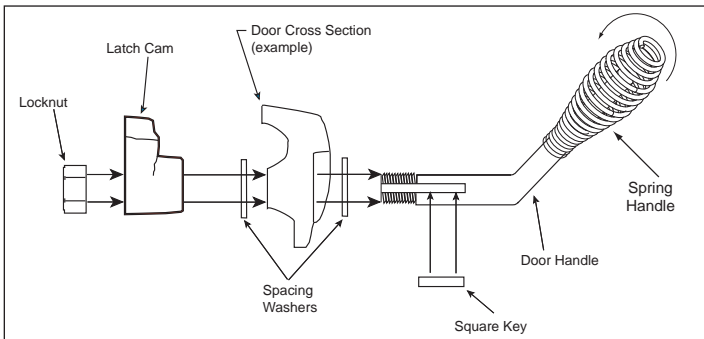

Figure 24.1 - Door Handle for Arched Door
3. Install second washer(s) as shown in **Figure 24.1**.